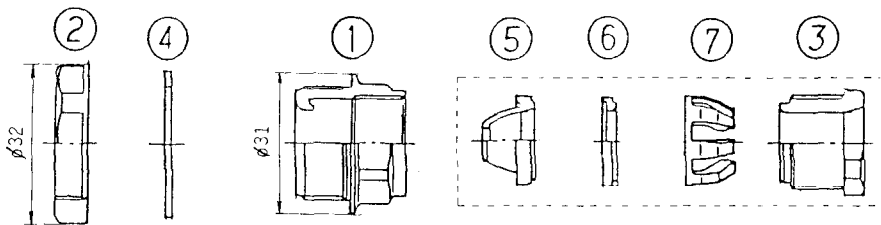

Fig.23 Assembling of Cable Gland
1. Remove the gland fixing nut (Parts No.2 in Fig.23).